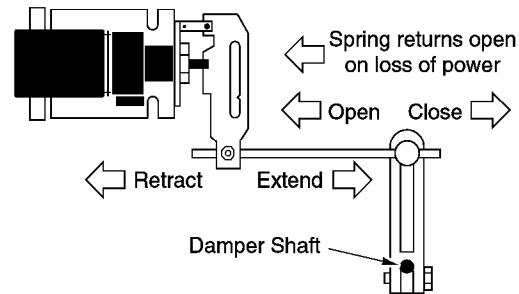
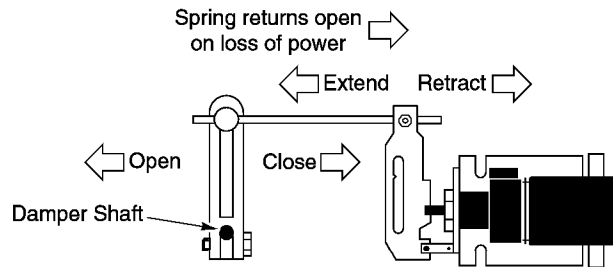

Figure-13 Dampers Open When Actuator Retracts (Spring>Returns Open on Power Loss).
Figure-14 Dampers Open When Actuator Extends (Spring>Returns Closed on Power Loss).
- a. Determine, from the system requirements, if the damper should spring-return to the open position (refer to Figure-13) or closed position (refer to Figure-14) whenever power is lost to the actuator. An actuator is normally linked so as to retract (spring-return) to the damper's fully open position (heat position).
4. Mount a ball joint connector in the slot on the damper crank arm. To achieve 90° of damper rotation, position the connector 1-1/2" (38 mm) from the centerline of the shaft hole on the crank arm. For 60° of damper rotation, position the connector 2" (50 mm) from the shaft hole centerline. Typically, 60° to 70° of rotation (maximum is 90°) is sufficient to permit almost maximum air flow through the dampers. Refer to Figure-13.
5. Rotate the damper to its open position. Install and secure the damper crank arm (with ball joint connector) to the damper shaft, positioning the crank arm as follows (refer to Figure-13):